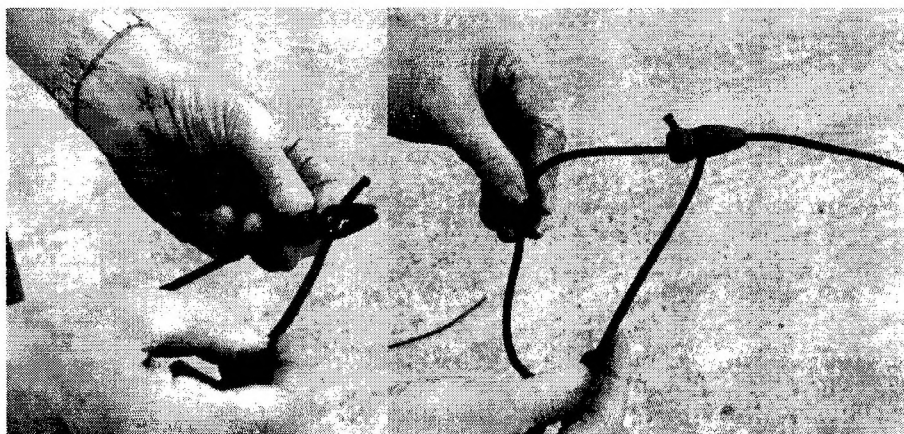

**Figure 41: Roof frame with attached insulation panel**
44. Lay the roof insulation panel, over the roof with white side facing inwards and loosely attach to the framework by the use of the tensioners, ensuring the ridge of the roof panel is aligned centrally Fig 41.